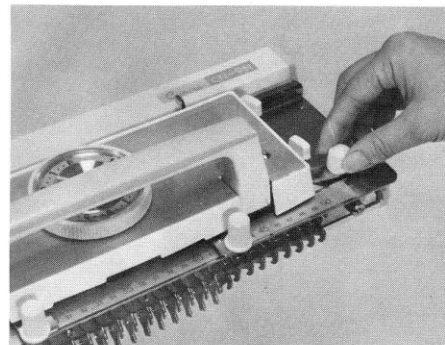

Fig.11
6. Detach carriage locking plate by unscrewing plastic knob. (Fig.11)